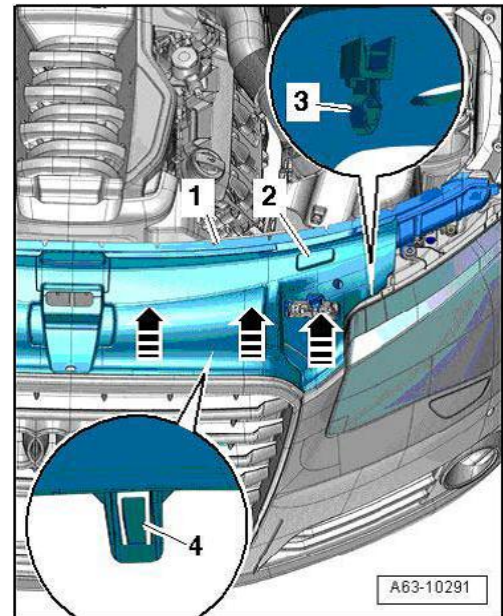

Figure 1. Removing cover.
1. Detach cover (Figure 1, 2) from lock carrier (Figure 1, arrows). Retainers (Figure 1, 3 and Figure 1, 4) must be released when cover is pulled off. Pull cover out of slot on lock carrier (Figure 1, 1) and remove.